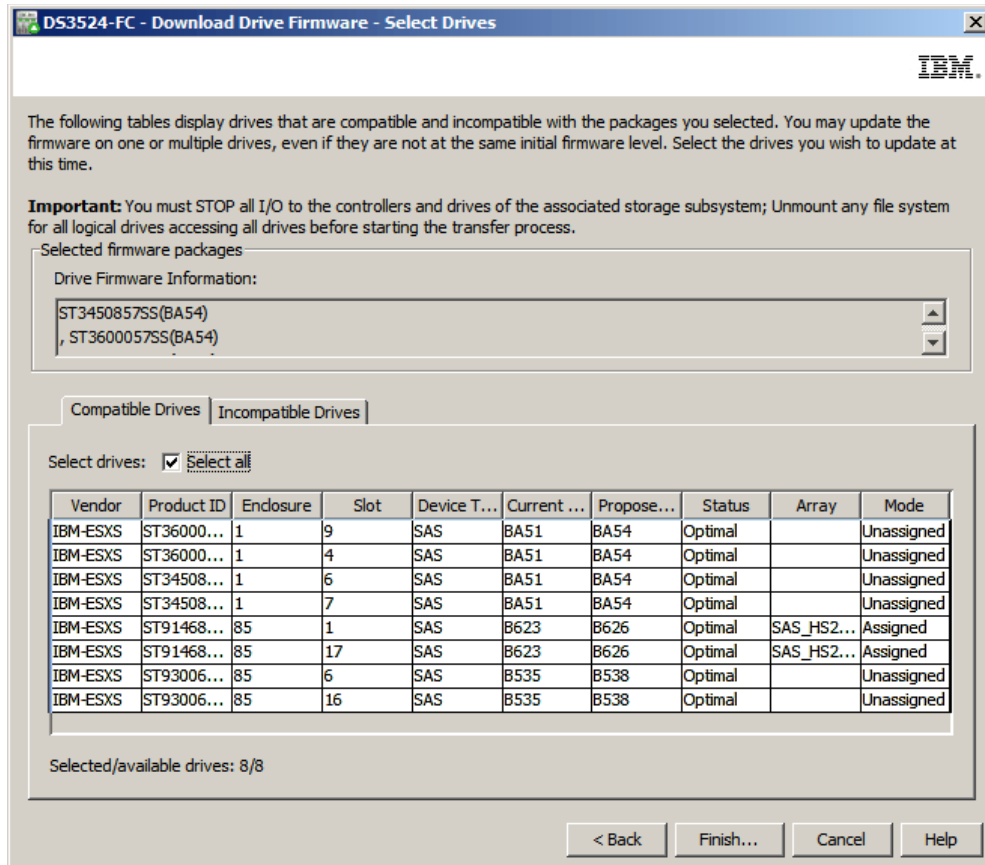

Figure 14-86 Compatible drives which can be updated
- Now you have to select the drives in the subsystem you want to update (Figure 14-86 on page 384). You only see the compatible drives in this window. Check **Select all** to update all compatible drives.